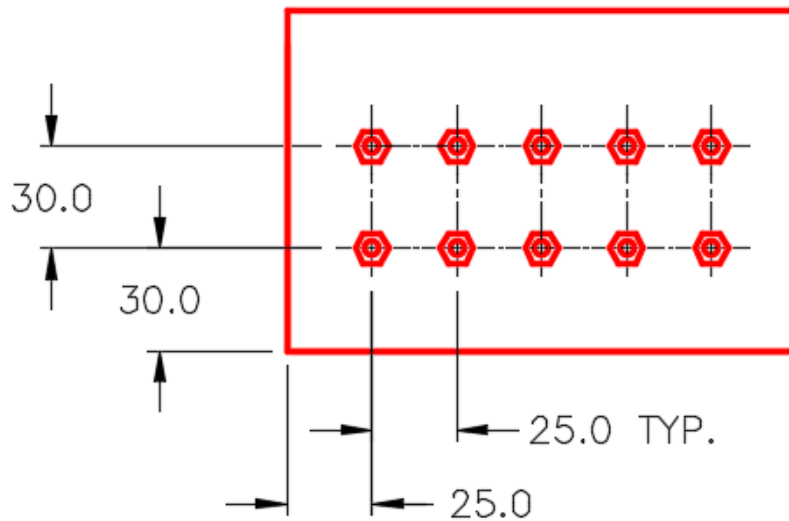

Figure Step 5A
Step 5 Move one bolt and one nut to the bottom outside bolt location as shown in the figure. The bolt comes up from the bottom and nut is on top of the plane. (Figure Step 5A, 5B, 5C, and 5D)